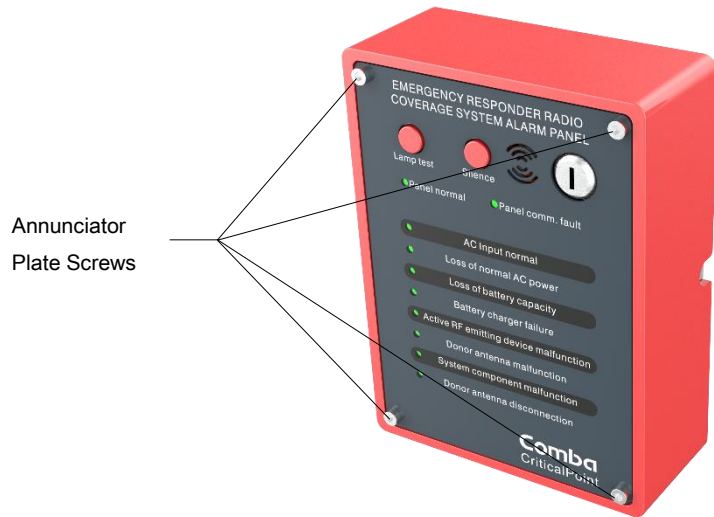

Figure 41: APV3-BDA - Front Alarm Plate Installation
- As shown in Figure 41 and 42 below, remove the 4 HEX screws holding the factory installed plate in place. This hardware will be reused. Do not discard!